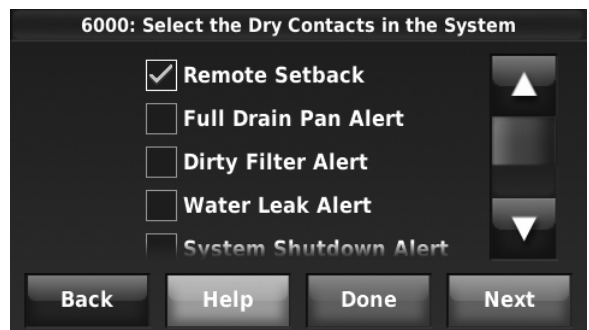

Fig. 300.
1. Select “Remote Setback” as shown in Fig. 300.